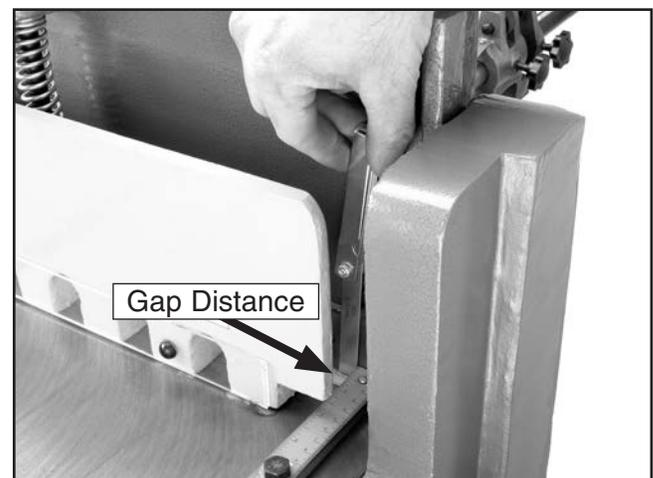

Figure 13. Measuring gap between blades.
6. Turn the table adjustment screws to move the fixed blade away from the moving blade so you have a gap of 0.002". Check this measurement with a feeler gauge as shown in **Figure 13**.